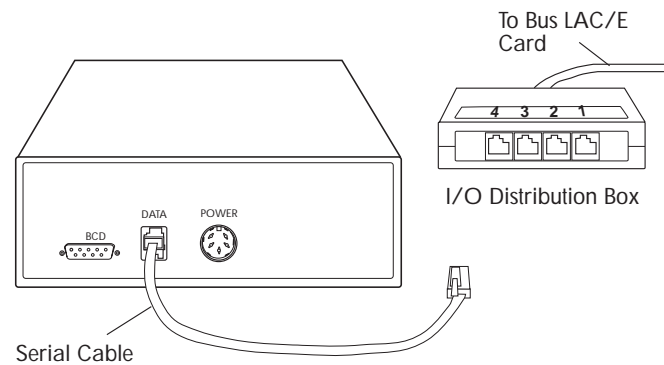

Figure 2-1 Connecting Bus SAT/IN to I/O Distribution Box
2. Insert one end of the Bus SAT/IN serial cable in the connector marked DATA on the Bus SAT/IN module (Figure 2-1). Both ends of the cable are identical.
3. Insert the other end of the serial cable into the first available Bus SAT/IN port on the Bus LAC/E I/O Distribution Box as shown in Figure 2-1.